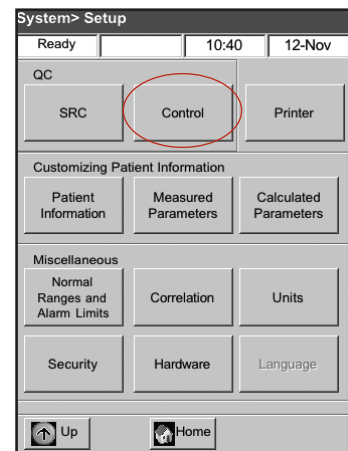

Figure B-6: System > Setup screen
- c. Tap **Control** (Figure B-6).